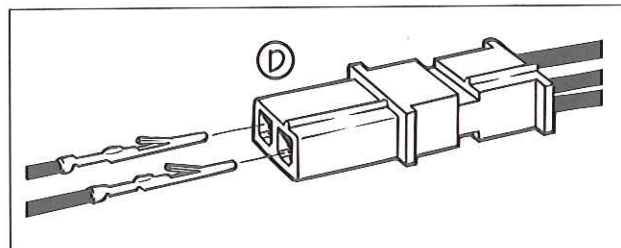

FIG. 7
5. Insert the yellow wire from the harness, Jacobs P/N 019098, into the pin housing on the same side as the yellow wire on the solenoid harness. Insert the blue wire into the other hole so that the blue wires are connected together (D) (see Fig. 7).